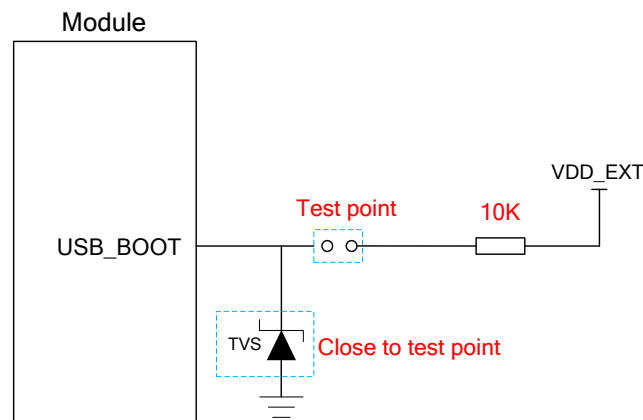

Figure 23: Reference Design of USB_BOOT Interface
3. When using MCU to control the module entering emergency download mode, follow the above timing sequence. Connecting the test points as shown in **Figure 23** above can manually force the module to enter download mode.